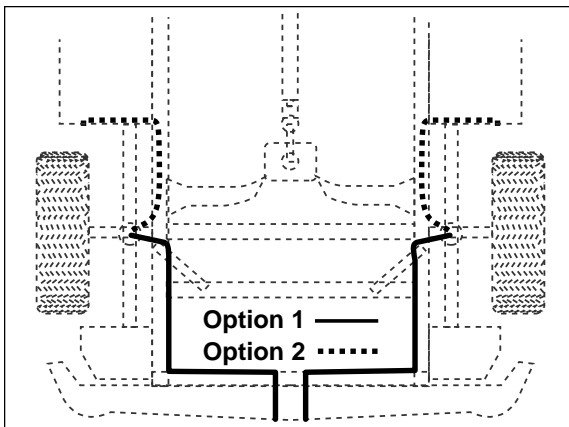

Figure 9
12. Route air line along frame from the inflation valve location to the air springs (Figure 9). Use the provided clips and self tapping screws to attach to the outside of the frame rail and the air line sleeves to protect the air line when routing through existing holes in the frame. *It is not necessary to drill a hole for this type of self tapping screw. Simply drive the screw through the frame section.* Attach air line to chassis with the provided plastic straps where possible.
2. *Should it become necessary to raise the vehicle by the frame, make sure the system is at minimum pressure (10 p.s.i.) to reduce the tension on suspension/brake components. Check to see that the sleeve rolls back down over the bottom piston after the vehicle is lowered (Figure 9). If sleeve fails to roll back down over the piston, add air pressure until sleeve "pops" back over piston (do not exceed 100 p.s.i.).*